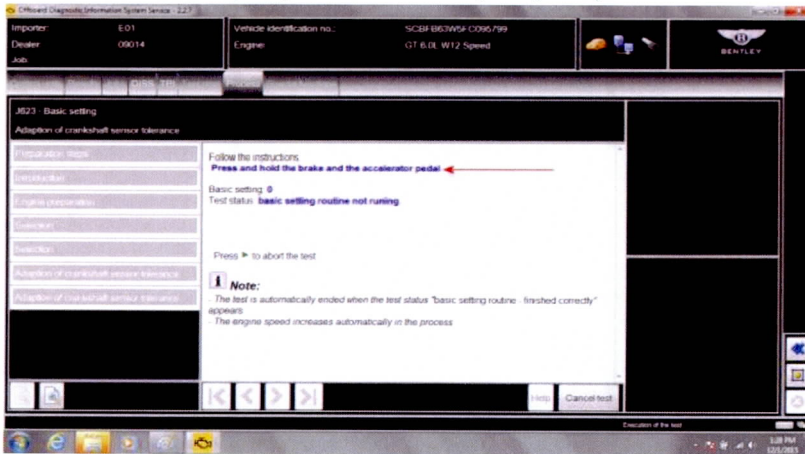

Figure 19
8. Following the screen prompts press and hold the brake and the accelerator pedal. (see Figure 19) **NOTE:** It is expected that the engine speed will rise rapidly to close on maximum rpm this is normal for this test keep the accelerator and brake pressed for the test to continue. The engine speed will rise and fall approximately 3 times during the this test